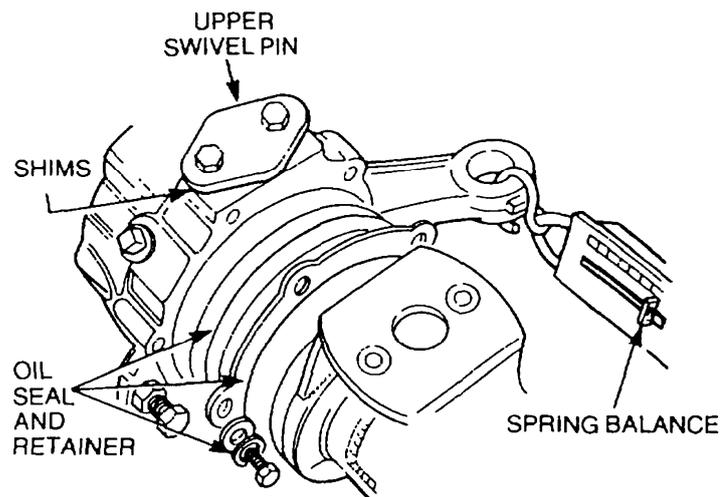

Figure 117 Measuring the Rotating Resistance
- n. Measure the resistance to rotation after the initial movement (Figure 117).
- v. Install the six bolts and new lock washers (Figure 117).